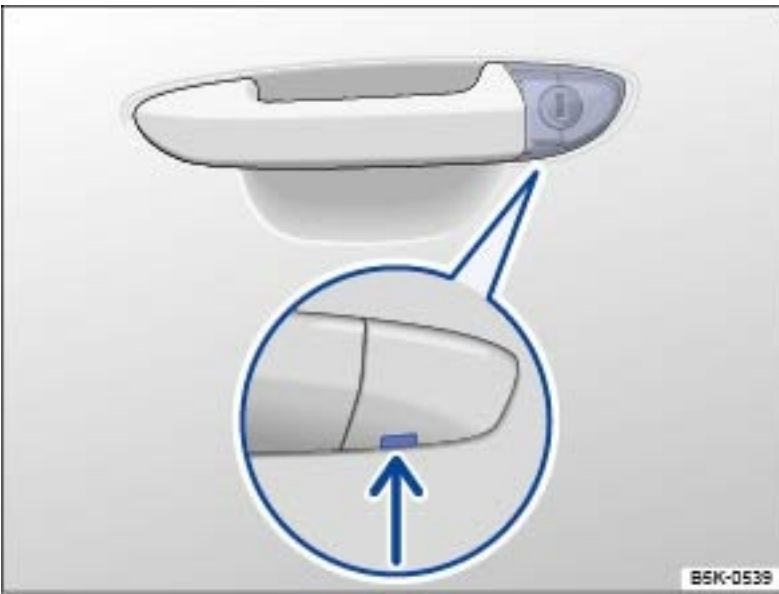

Fig. 200 Door handle on driver door: Concealed lock cylinder (if applicable).
- ▶ If the vehicle has a concealed lock cylinder, insert the key bit from below into the opening of the cover cap on the driver door → Fig. 200 (arrow) and lift the cover cap off. Grasping the door handle and pulling slightly makes it easier to remove the cap.